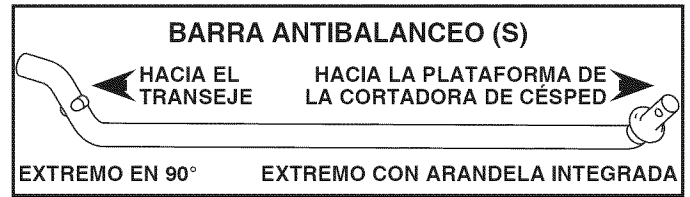

Fig. 33
5. SI LA TIENE, INSTALE LA BARRA ANTIBALANCEO (S) (Vea Fig. 33 - 35)